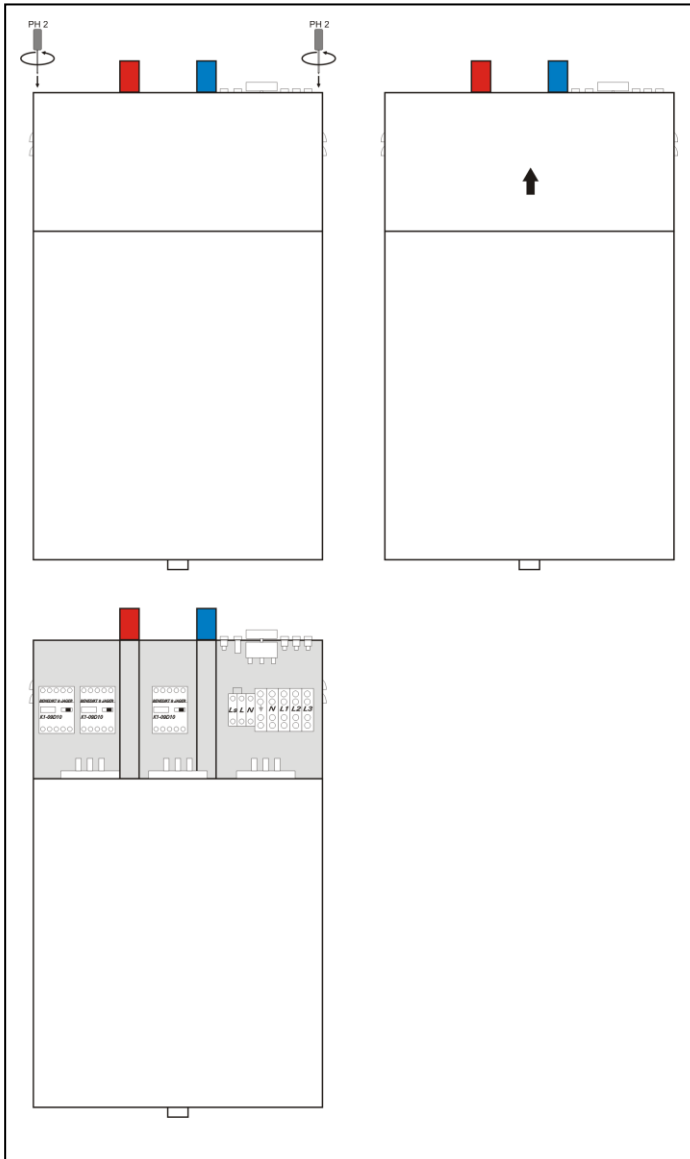

Figure 3: Opening the boiler (Demounting front casing)
- ▶ Draw positions for drilling the holes for mounting set respecting minimum distances (Figure 3).